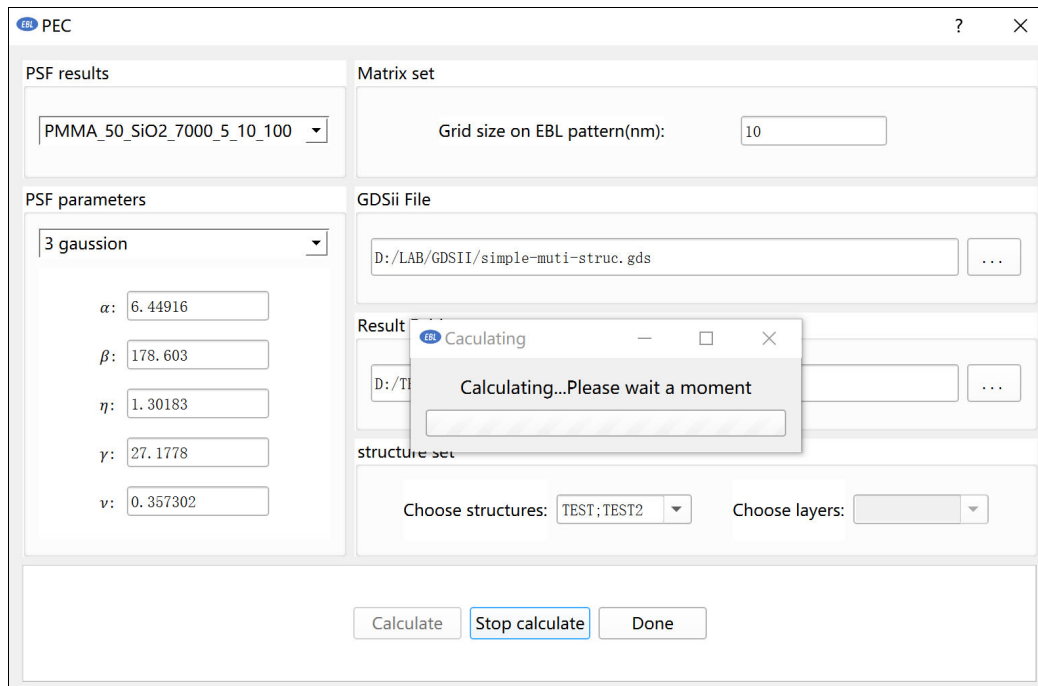
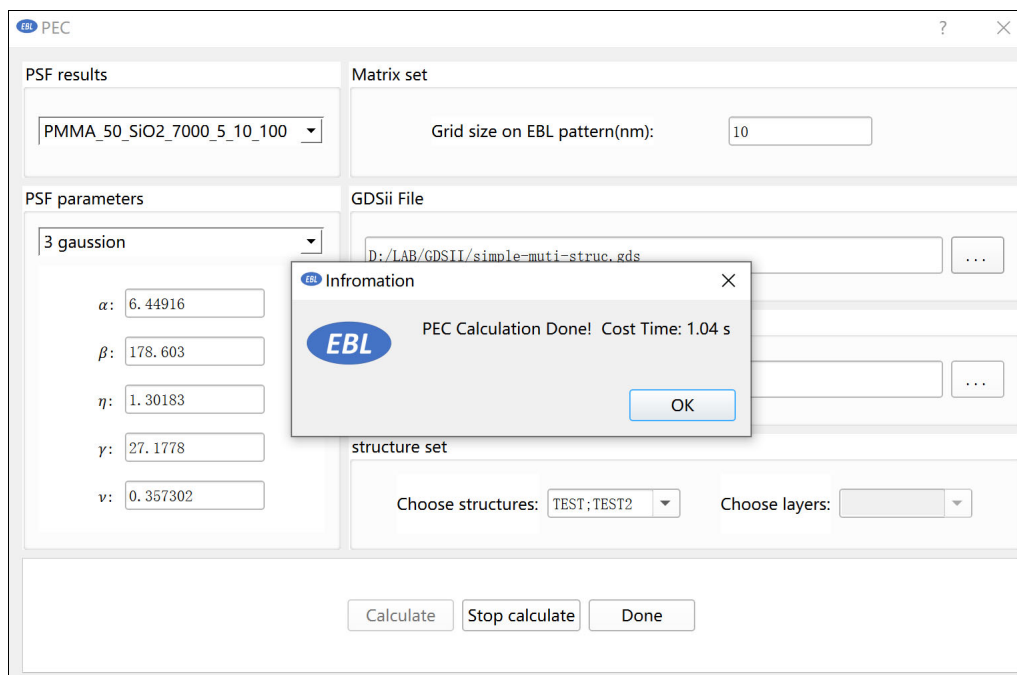

Figure 2.6.3 PEC calculating
Figure 2.6.4 PEC done
- 8) You can click "Calculation" (Figure 2.6.3) to perform PEC. If the input parameters are incomplete, the calculation cannot be started. The calculation time is displayed after the calculation is completed (Figure 2.6.4). After the calculation is completed, you need to click "Done" to close the current window, and you can save the output file to the specified folder.